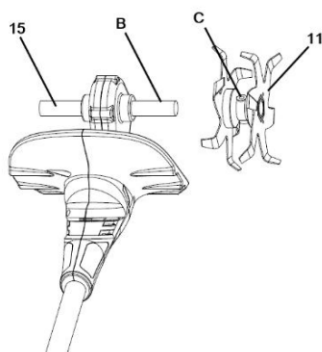

Fig.2
- 2.Install blade component 11 into rotating axis 15 in the direction of the arrow shown, and align hole B on rotating axis 15 with hole C on blade component 11.(Fig2)